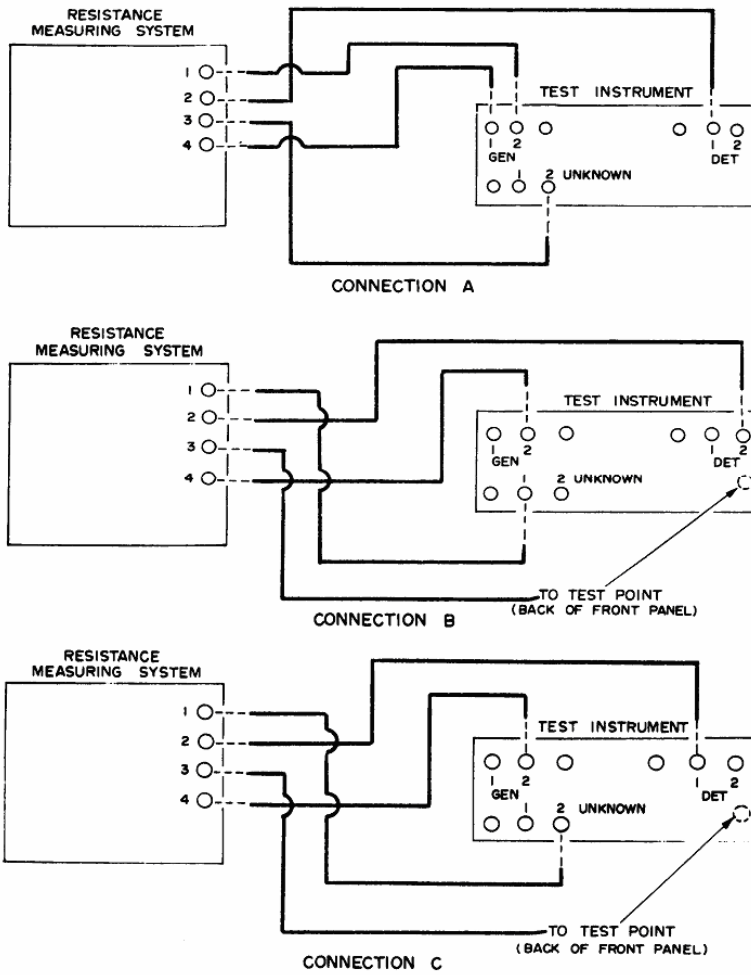

Figure 1. Bridge resistance - equipment setup.
¹Use connection C of figure 1 for remaining switch positions (6 through 11).
- (1) Turn all resistance indicating dials to 0 (zero) and range switch to **11 GIGOHMS**.
- (2) Connect equipment as shown in figure 1, connection A.
- (3) Measure and record lead and wiper arm resistance (zero resistance). Measured resistance will not exceed 0.04 ohm.
- (4) Turn resistance indicating dials to settings listed in table 4 and measure resistance at each setting. Subtract zero-resistance value recorded in (3) above from each resistance measurement. Difference will be within specified limits in table 4.
- (1) Turn all TI resistance indicating dials to 0 (zero) and set range switch to **1 MILLIOHMS**.
- (2) Connect equipment as shown in figure 1, connection B.
Two measurements are required for **6 KILOHMS** range switch position, using connection B of figure 1 and the other, using connection C. These readings are shown on worksheet as X6a and X6b, respectively.